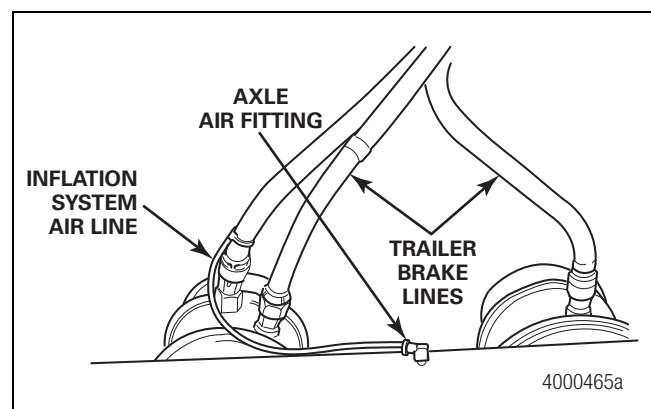

Figure 2.65
3. Route the air lines from the tee to the axle air fittings. Provide sufficient slack in the lines to allow for suspension movement. Use the slack in the existing trailer brake lines as a guide. Figure 2.65. Hand-tighten the air line fittings, then use a 9/16-inch wrench to tighten them approximately one additional turn to obtain an airtight seal.